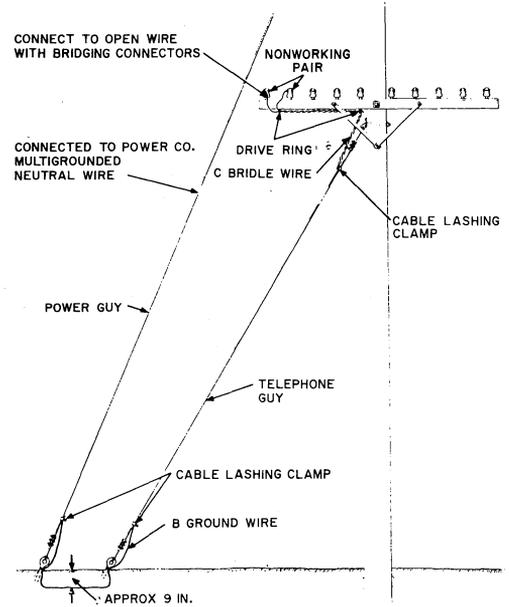

Fig. 39—Grounding Nonworking Wire at Telephone Anchor Guy
7.02 Where the telephone guy and power guy are attached to the same anchor and the power guy is connected to a multigrounded neutral, the telephone guy is adequately grounded and nonworking open wire may be grounded to the telephone guy (Fig. 39).